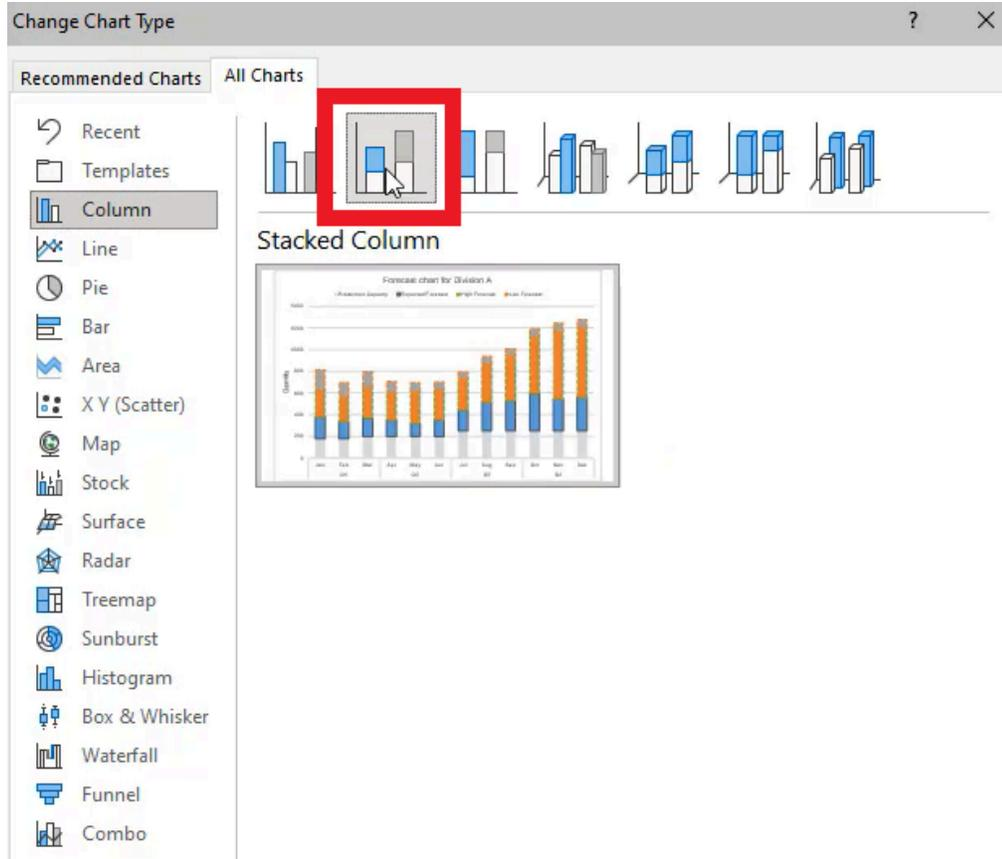

Figure 37.31
a. This is an **accumulative** chart format, so it adds series of data on top of each other. (See **Figure 37.31**)